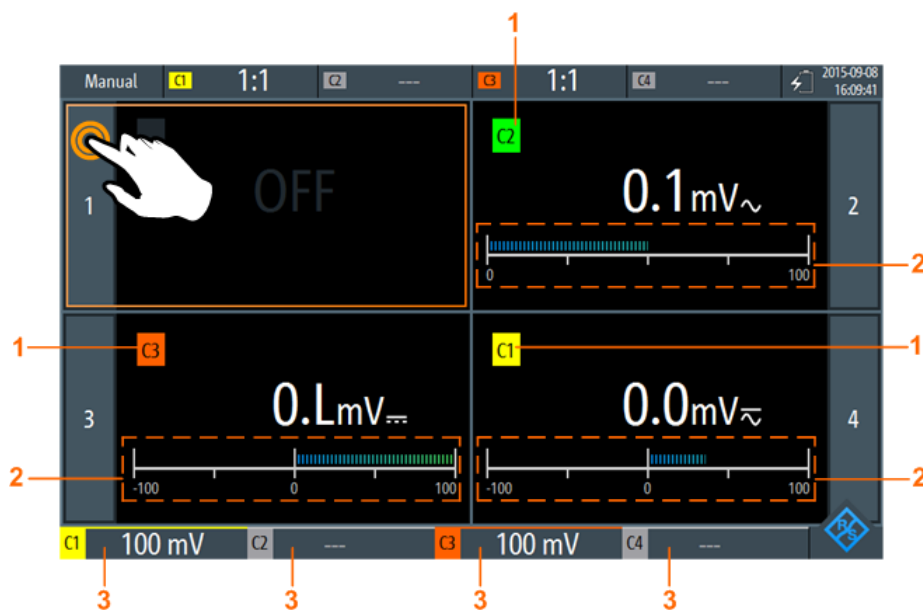

Figure 6-4: Four-voltmeter-view
- Tap the meter number as shown in Figure 6-4.